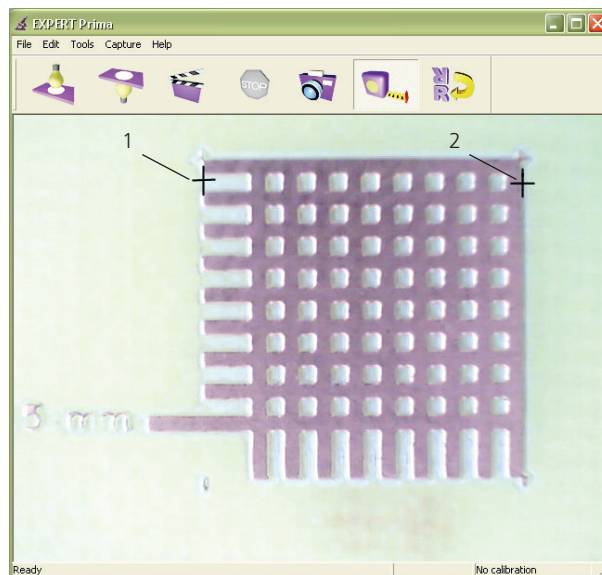

Fig.10b. Calibration.
- o Point the cross-like cursor at the opposite edge of the grid's strip as shown in fig.10b and click the left button of the mouse.